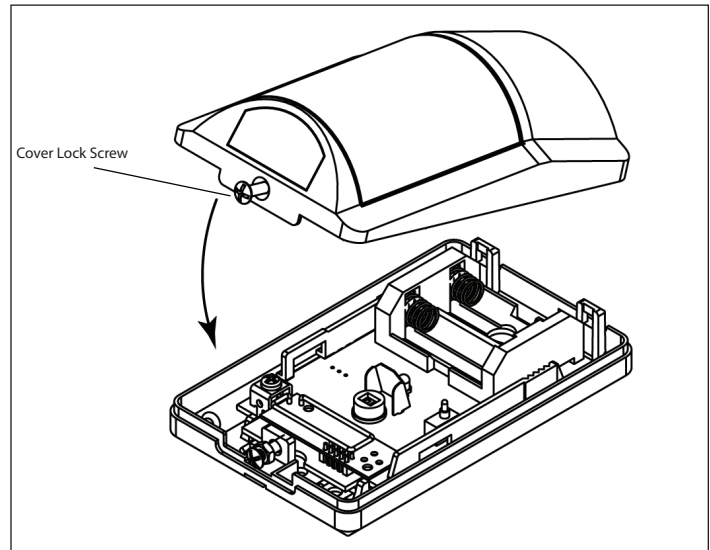

Figure 1: Remove the Cover
1. Remove the front cover. See Figure 1.